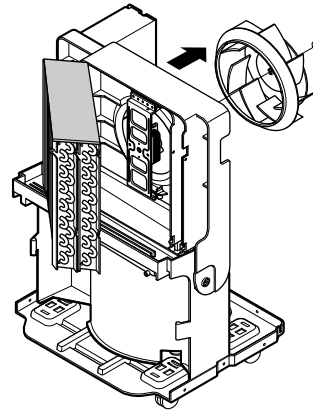

Figure 20
3. Lift the H/E and open the H/E around 45 degree clockwise carefully. (See Figure 20)